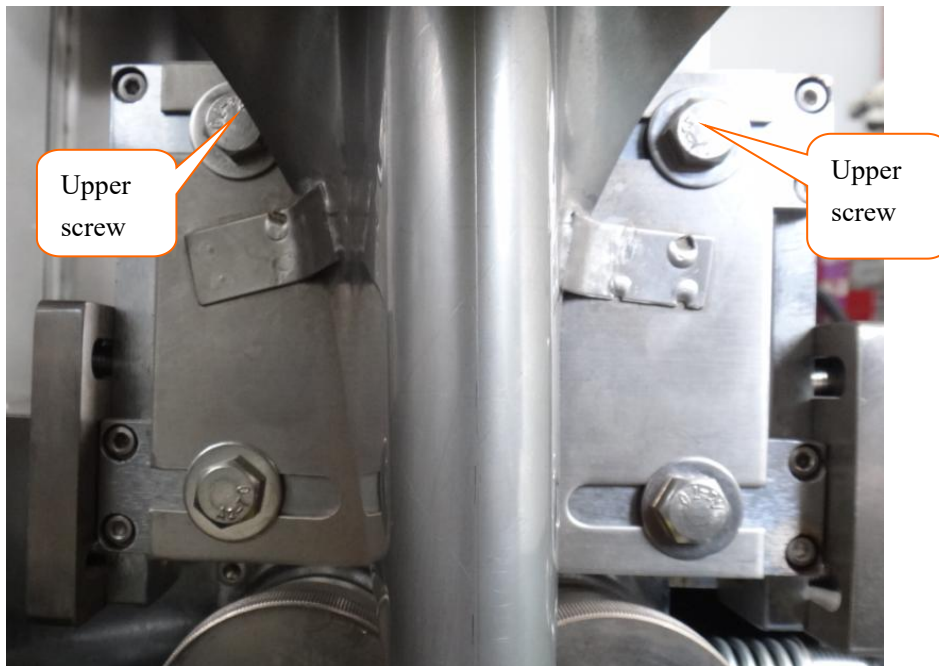

Fig. 6-5
2. If any diamond-shaped bag is found, loosen the upper screws on the former rack (fig. 6-5), and